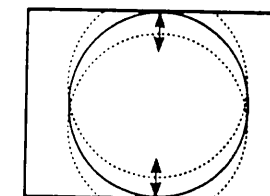

Fig 5.
- d: Adjust the vertical size to obtain overscan (fig. 5).